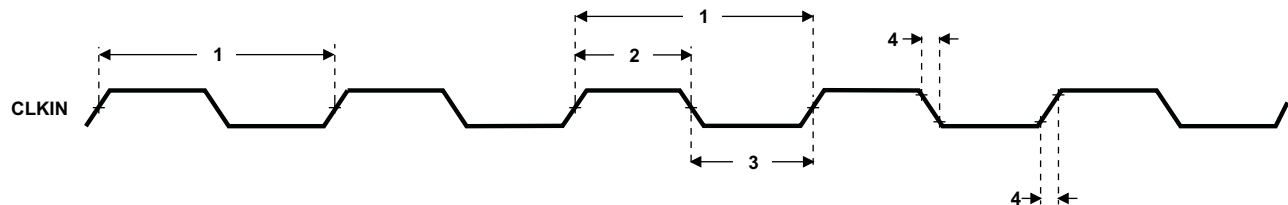

Figure 5-17. CLKIN Timing
Table 5-10. Timing Requirements for CLKIN^{(1) (2)} (see Figure 5-17)